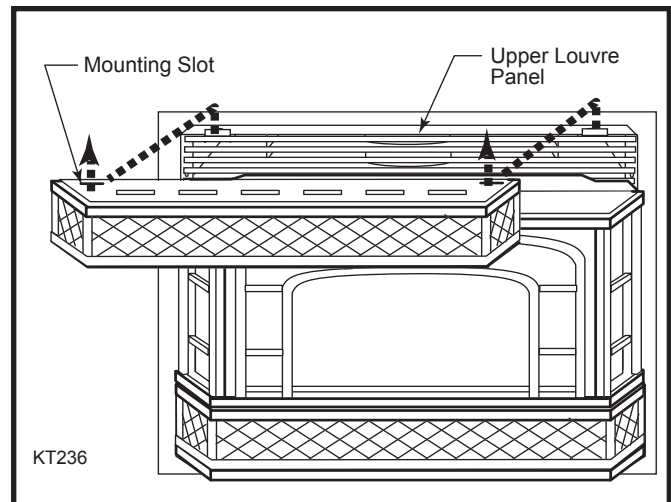

Fig. 5 Attach top grille.
8. Hang the top grille on the upper brackets at the two slots as shown in Figure 5.